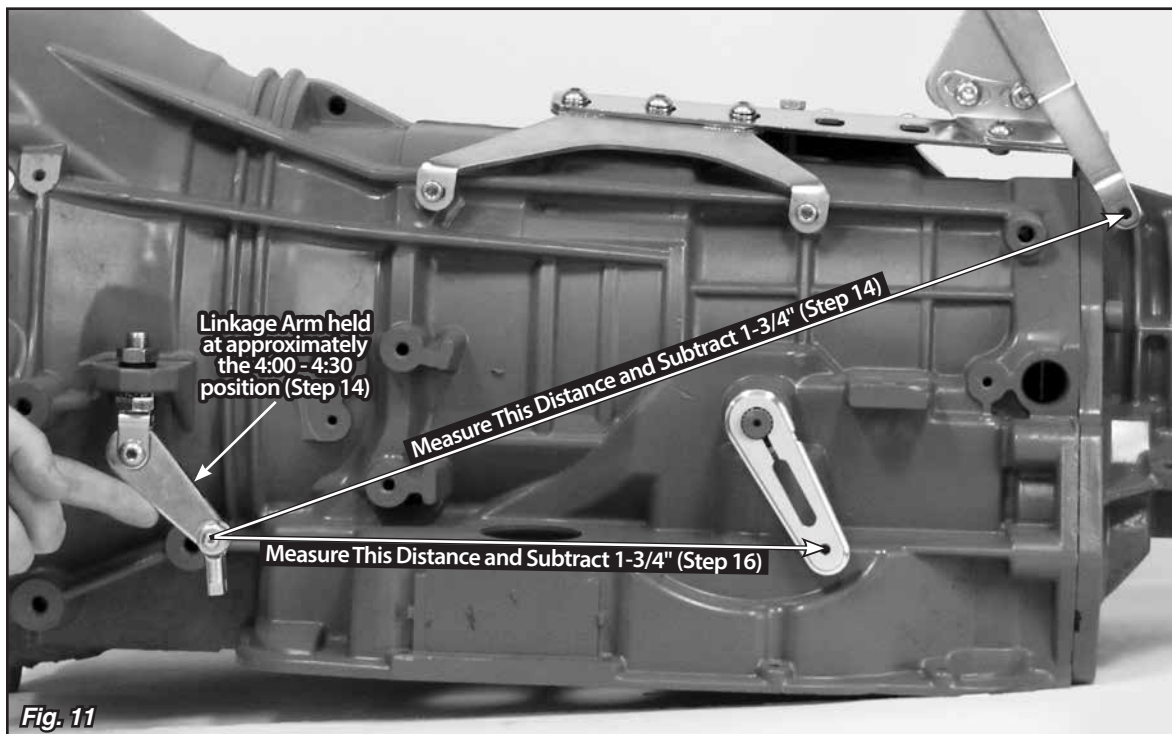

Fig. 11
Verify that both the shifter lever and the transmission are in the Park position. Hold the linkage arm at approximately the 4:00 - 4:30 position. Measure center-to-center from the 1/4"-28 button head bolt in the bottom of the linkage arm on the transmission to the 1/4" hole in the quad lever on the shifter assembly. Subtract 1-3/4". **Fig. 11** This is the length you will cut the long threaded rod to. Use a hacksaw or cutoff wheel to shorten the long threaded rod, and then, de-burr the cut end of the rod.
Step 16: The short threaded rod will connect the linkage arm to the billet trans arm. Check to make sure that nothing will interfere with the travel of the short threaded rod. If there is any interference, the short threaded rod can be bent slightly as needed. Measure center-to-center from the button head bolt in the bottom of the linkage arm to the center of the 1/4" hole in the bottom of the billet trans arm. Subtract 1-3/4". **Fig. 11** This is the length you will cut the short threaded rod to. Use a hacksaw or cutoff wheel to shorten the threaded rod, and then, de-burr the cut end of the threaded rod.